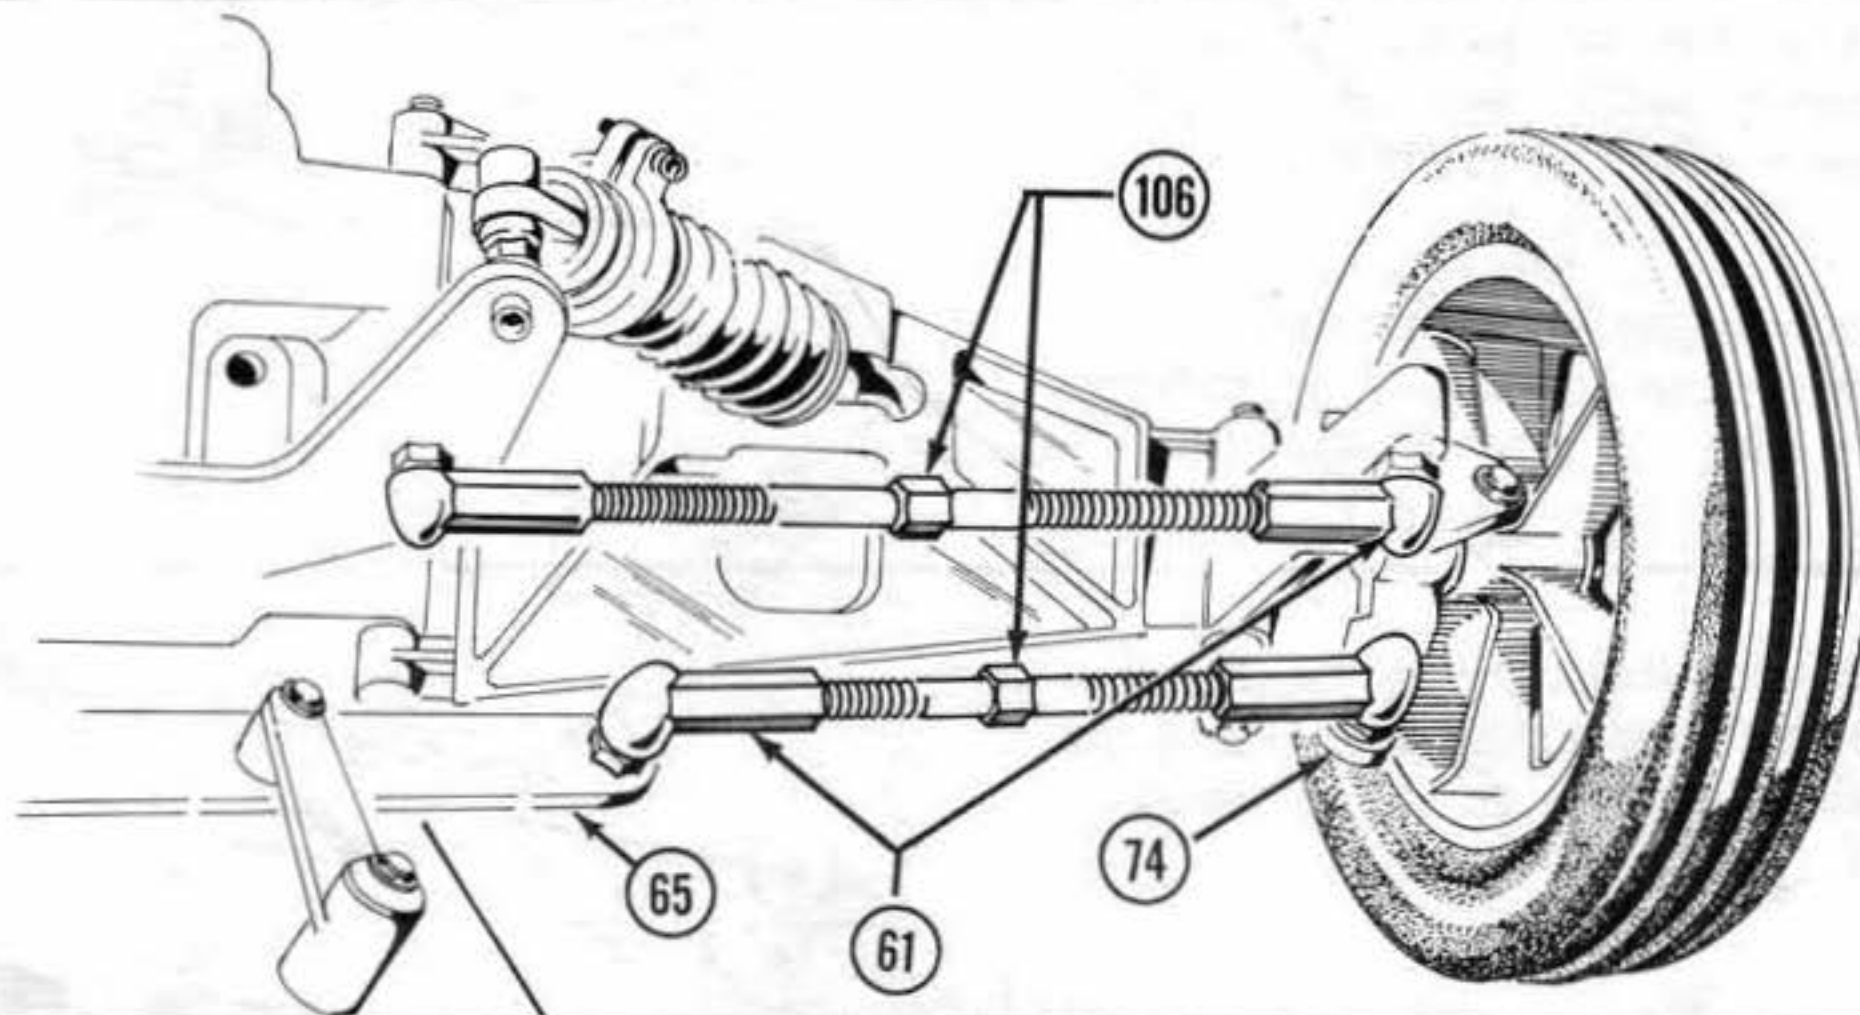

FIG. 31
12. Snap one rod end (61) onto end of steering sector arm (65) and free end onto steering spindle arm (74). Fig.31
13. Snap one end of the other turnbuckle assembly (106) onto top of spindle carrier (71) and the other end onto lower near corner of shock tower (1). Fig.(31)